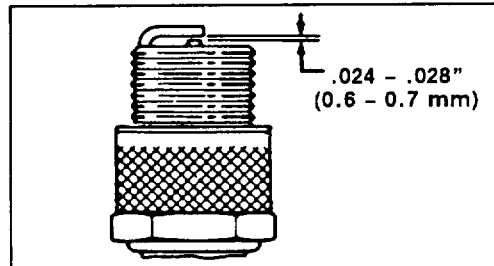

Figure 16
3. Set air gap at .024 - .028" (0.6 - 0.7 mm) as shown in Figure 16. Install correctly gapped spark plug and gasket seal. Tighten plug firmly to 9 ft-lb (1.2 Kg-m).